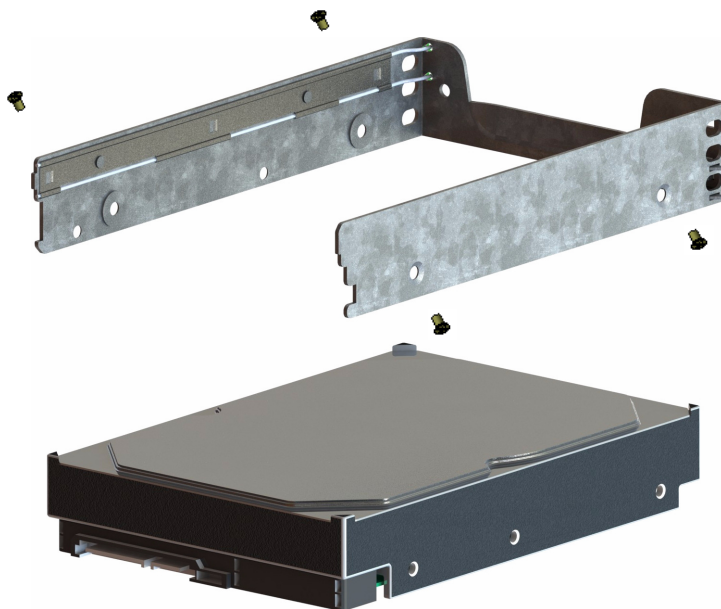

Figure 4-7 Capacity Drive and Carrier
As shown in Figure 4-7, the drives are mounted in drive carriers to simplify their installation and removal from the drive bricks or boot drive bays in the chassis.
4. Secure the hard drive using the four screws (see Figure 4-7).